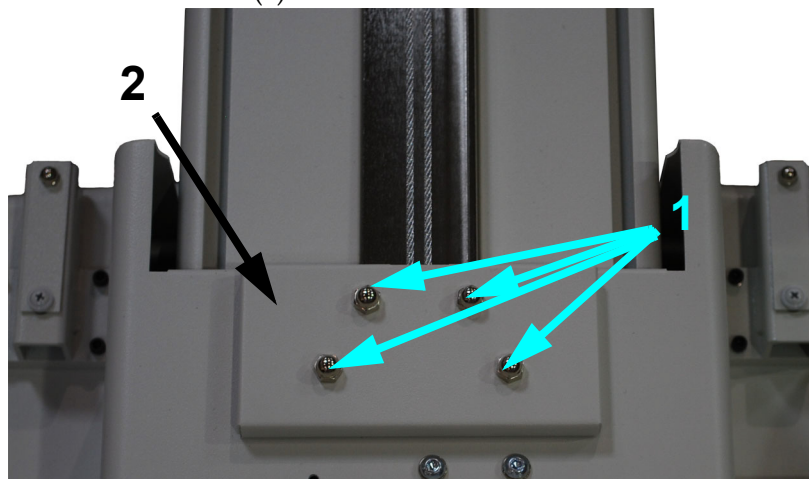

Figure 6-1. Back Cover
- 3 Unscrew the four back cover nuts (1 in Figure 6-1) and remove the back cover (2).